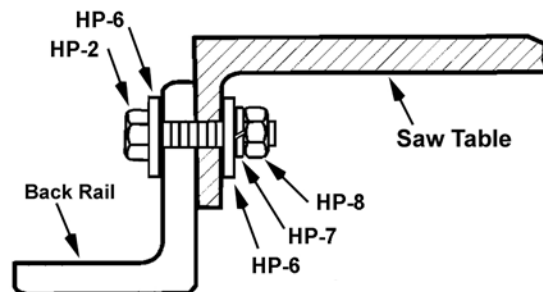

Figure 5
4. Secure remainder of back rail with 1/4 screws, flat washers, lock washers, and hex nuts (**HP-2/6/7/8**) as shown in Figure 5.